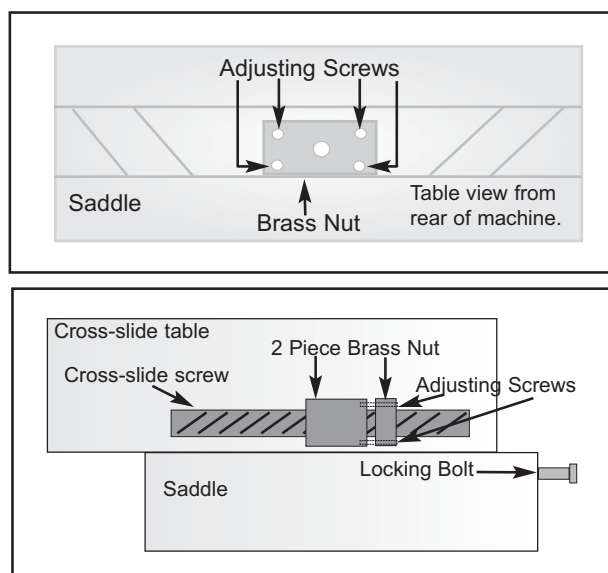

Figure 5.23 Tighten the adjusting screws on the brass nut
Step 2: Loosen the allen bolt that locks the brass nut into the saddle. (See Figure 5.23)